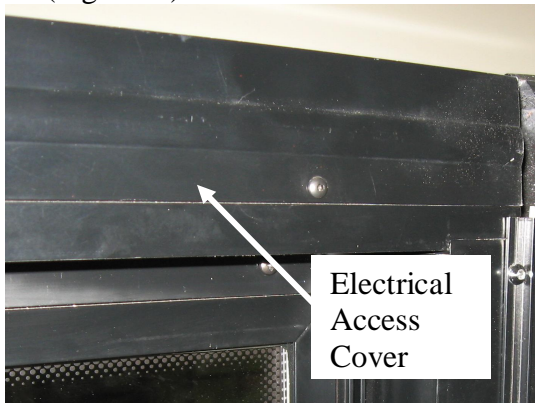
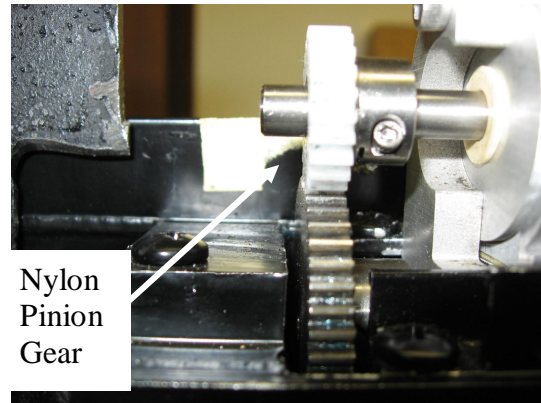

Figure 23
Figure 24
- 1) Remove the electrical access cover (Figure23) followed by the nylon pinion gear (Figure24)